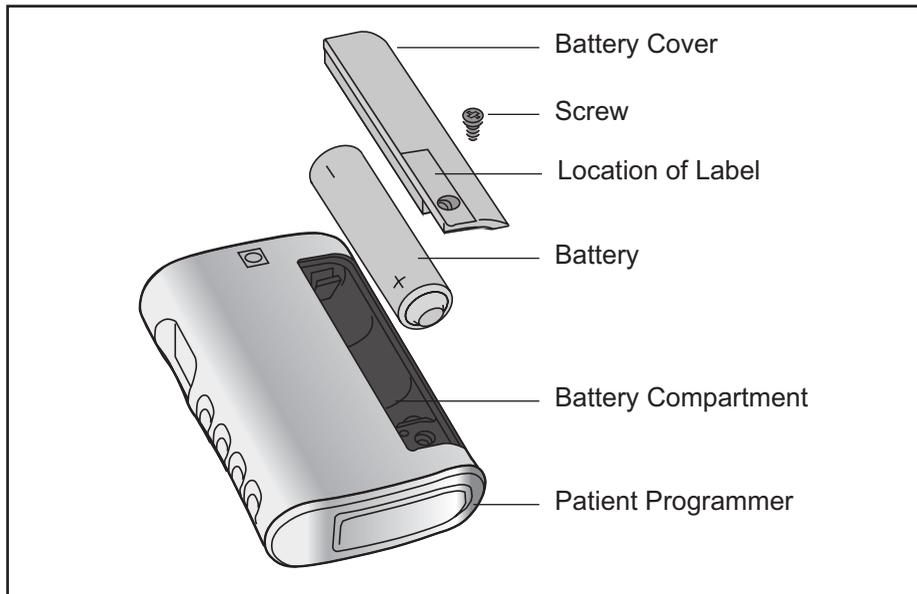

Figure 9-1: Replacing the patient programmer battery.
1. Remove the label on the back of the Patient Programmer. The label covers a small screw. See Figure 9-1.